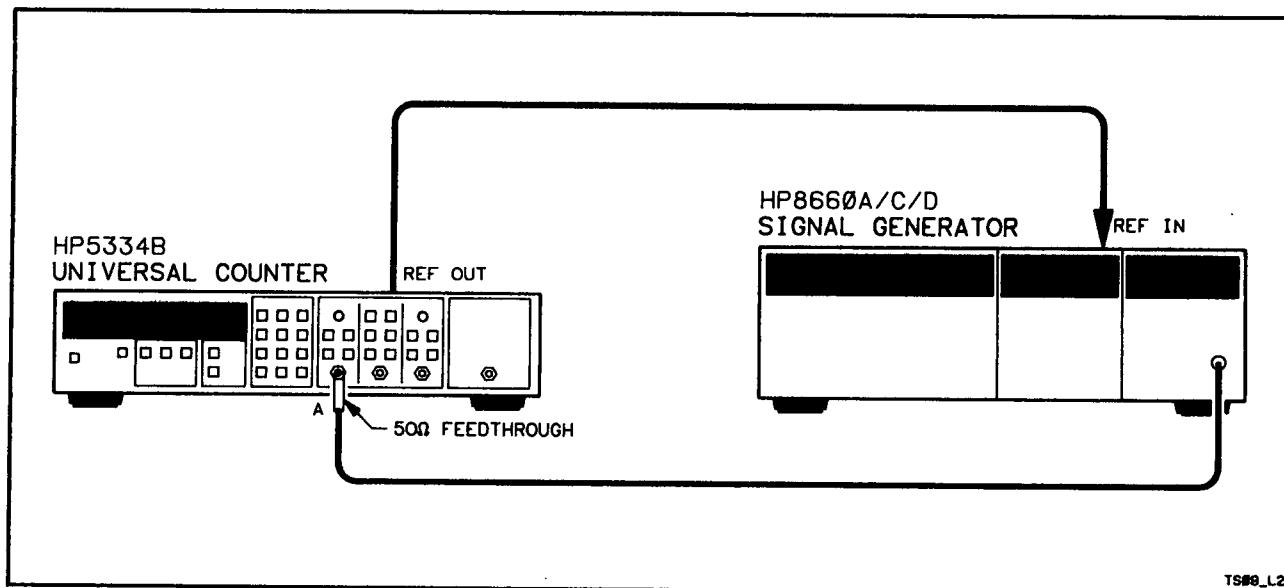

Figure 4-9. Pulse Width A Test Setup
3. Connect the signal generator output to the HP 5334B Input A using a 50Ω feedthrough connector as shown in *Figure 4-9*.